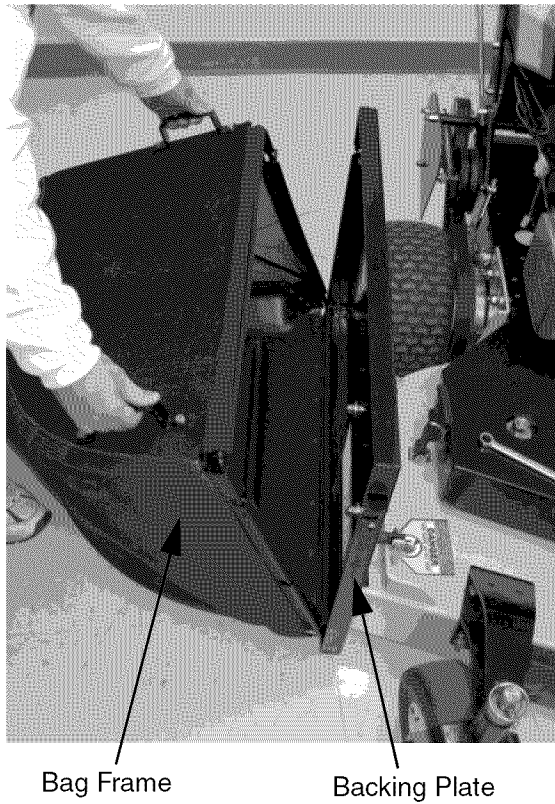

Figure 12
12. Attach Bag Frame [B] to Backing Plate [F] as shown below in Figure 12.